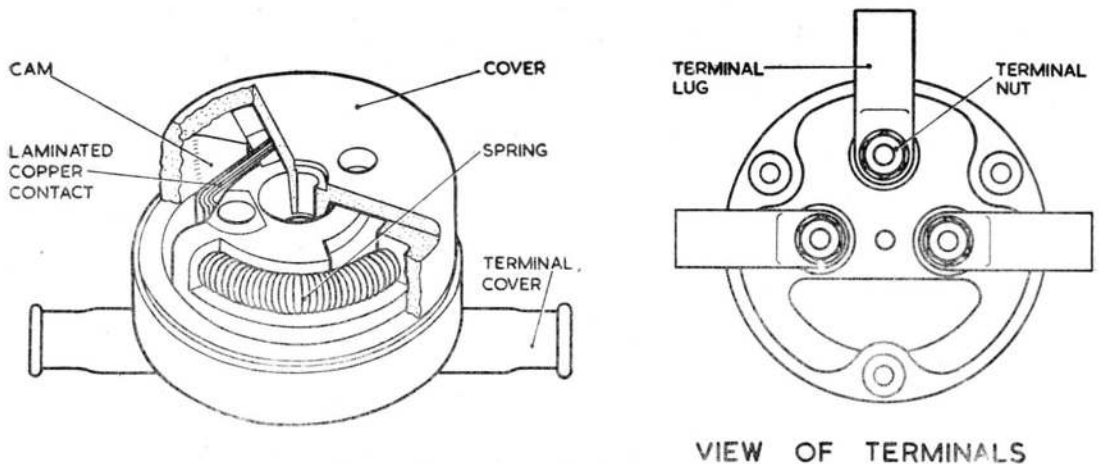

Fig. 1. External supply socket, Type E1
2. The socket, Type E1 (*fig. 1*), is constructed of black moulded insulating material. The cover is held by a central fixing screw and is secured against vibration by a hexagon lock-nut at the back of the socket. A felt washer is fitted at the point of contact between the lid and the base to exclude dust and moisture from the interior of the unit.
3. To insert the ground starter trolley plug, the socket cover must be turned in a clockwise direction against the action of a coil spring shown in fig. 1. Pressure is then removed from the laminated copper contact and the connection between the terminals marked B- and M2 is broken. The plug can then be inserted. When the plug is removed, the spring restores the socket cover to its original position, and pressure from the raised cam on the inside of the lid closes the copper contact, completes the connection between B- and M2, and brings the aircraft battery back into circuit. In order that the plug shall be inserted correctly the socket inserts are of unequal sizes, that marked B+ being the larger of the two.